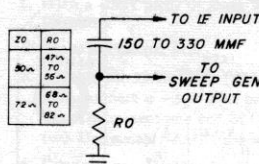

Fig. 11
10. Set the R.F. signal generator to 45.25 mcs., couple to the 1st I.F. Grid Pin #1 of V-3 through the matching network as in Fig. 11. Adjust input to maintain output near -3V D.C.